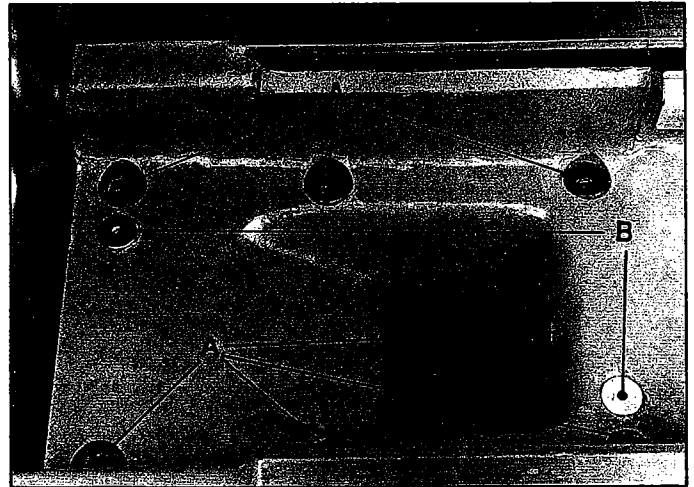

Fig. 30
- To remove gap section, remove seven hex socket cap screws (A, Fig. 30). **Note:** number seven is located horizontally in the center of the ways.
- Pull two locating pins (B, Fig. 30).
- Replace locating pins (B, Fig. 30).
- Replace seven hex socket cap screws (A, Fig. 30) and tighten alternately until all are tight.